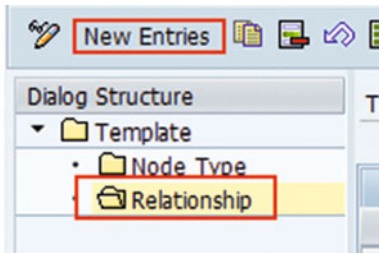

Figure 3-26. Configure global hierarchy template's node relationship
5. Go back to the main screen and select the Relationship option by selecting the global template and then New Entries (refer to Figure 3-26).